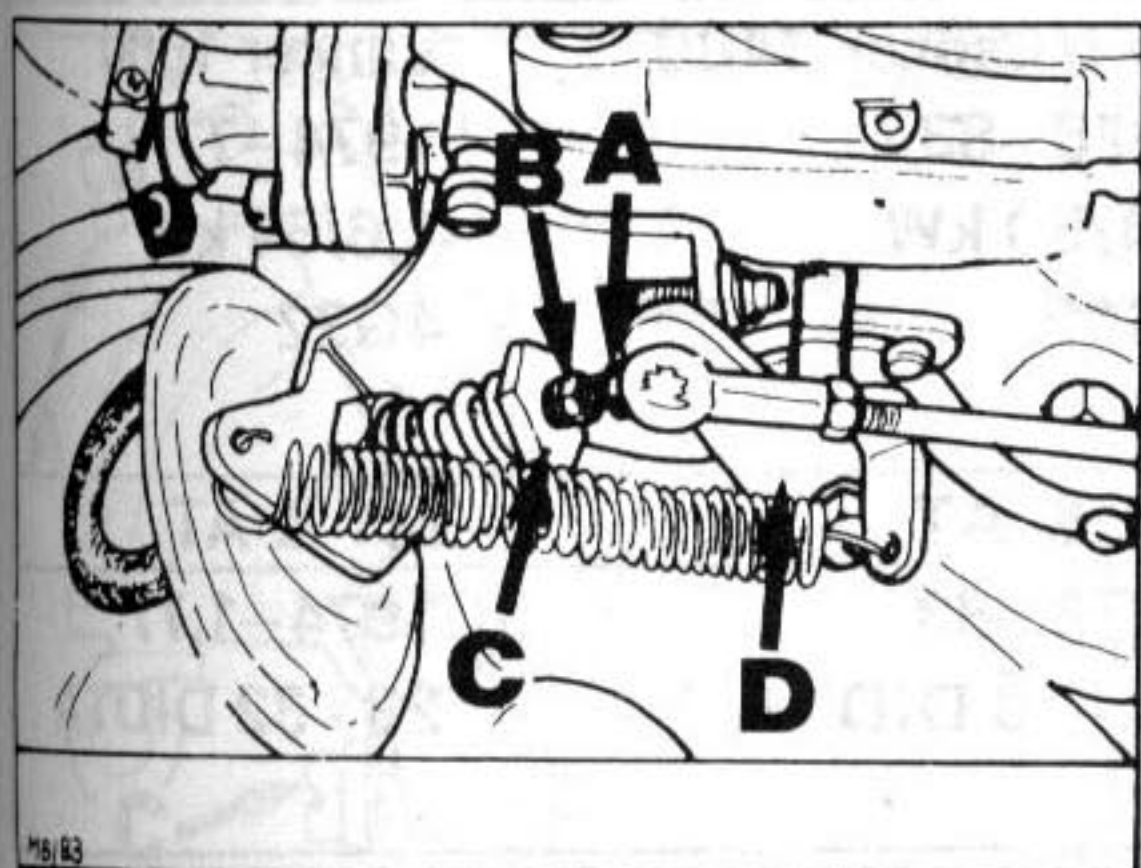

Fig. 4 Vacuum governor adjustment
- If necessary, adjust engine speed to this figure by turning adjusting screw (A) as appropriate (Fig. 4). Hold diaphragm rod by flats to prevent it turning when loosening or tightening adjusting screw locknut (B).
- With engine idling, check gap between end of adjusting screw (A) and throttle valve lever (D), (Fig. 4). This should be approximately 1,0 mm.
- If necessary, adjust gap by turning compression spring adjusting nut (C).
- If necessary, adjust engine speed to within these limits by turning compression spring adjusting nut (C) as appropriate (Fig. 4).
- If necessary, adjust engine speed slightly by means of adjusting nut (C, Fig. 4).